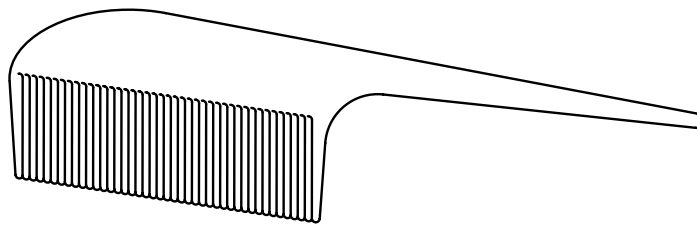

Fig. 1
- 3 Fig. 1 shows a plastic comb.